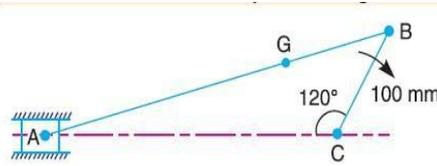

Fig. 8.5
6. An engine mechanism is shown in Fig. 8.5. The crank $CB = 100$ mm and the connecting rod $BA = 300$ mm with centre of gravity G , 100 mm from B . In the position shown, the crankshaft has a speed of 75 rad/s and an angular acceleration of 1200 rad/s².